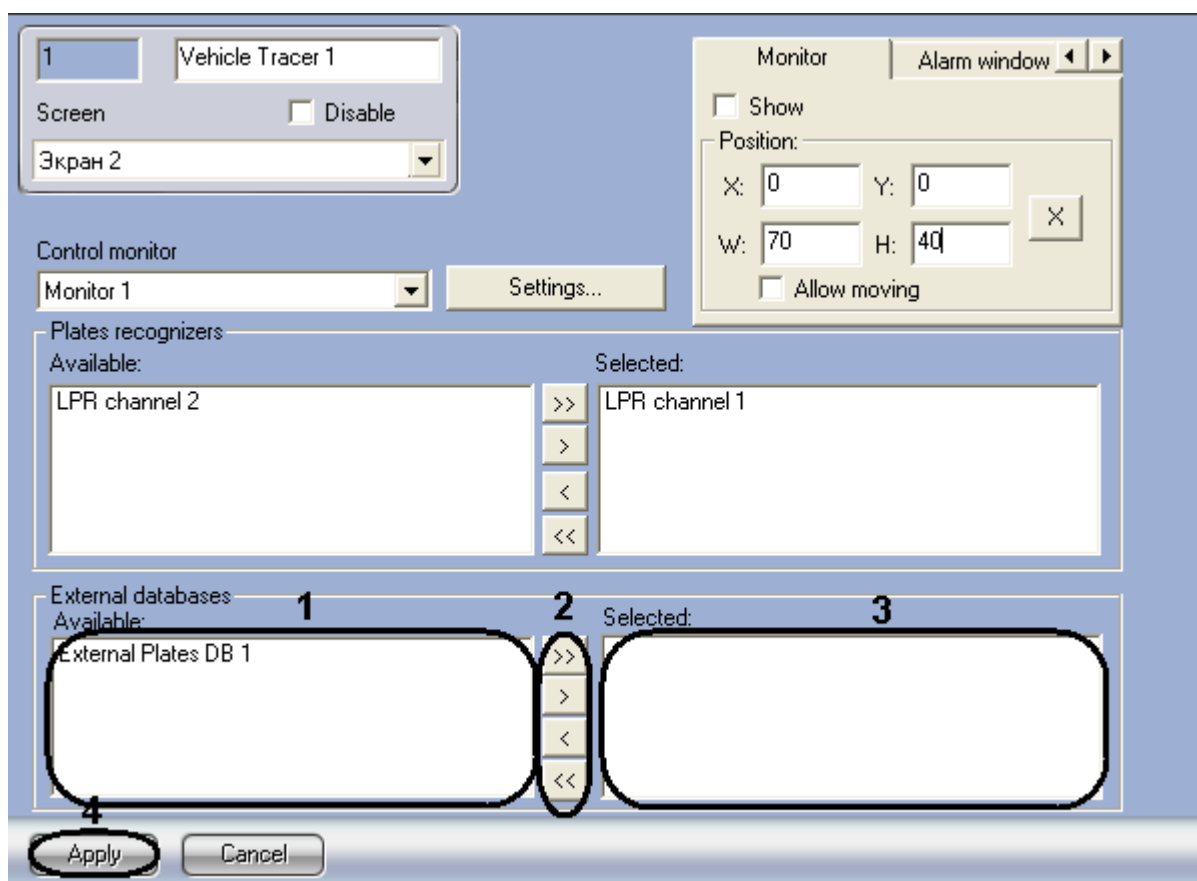

Fig. 7.9—7 Selecting the External Plates Database
1. Go to the «Vehicle tracer» settings panel (Fig. 7.9—7).
2. Select the required «External Plates databases» from the list Available of the Plates recognizers group (Fig. 7.9—7, 1).
3. Move the selected external databases to the list Selected of the External databases group, clicking the «>» button (or «>>» button for moving all the external databases from the list) (Fig. 7.9—7, 2-3).